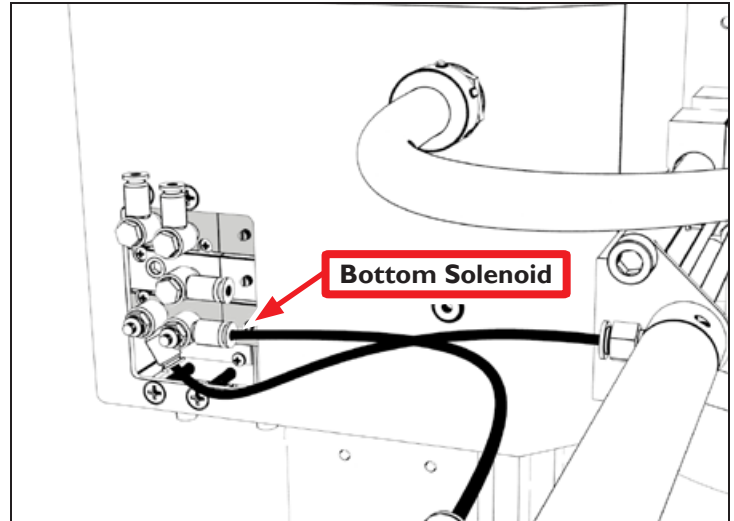

Figure 11
2. On the left side of the motor enclosure, identify the Bottom Solenoid (see **Figure 11**).
3. On the Bottom Solenoid (see **Figure 11**), use a small, flat-head screwdriver to push in the screw and turn it clockwise.
6. From the left side of the motor enclosure, on the Bottom Solenoid (see **Figure 11**), use a small flat-head screwdriver to turn the screw on counterclockwise.